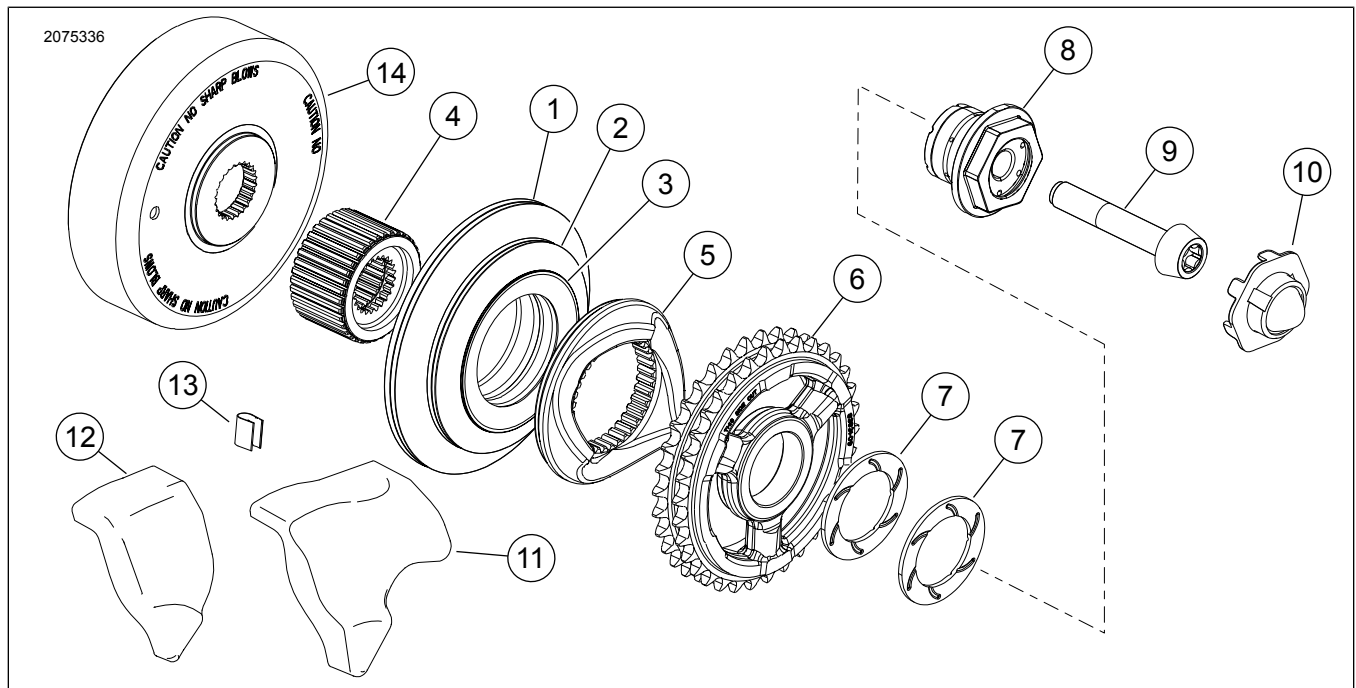

Figure 1. Kit Contents: Service Parts: Screamin' Eagle Big Twin Compensator Kit
9. **2006-2011 Dyna, 2007-2011 Softail (except 2008-2009 FXCW, 2008-2011 FXCWC, 2009 FXSTSSE3, 2010 FXSTSE and 2011 FXSTSE2) and 2007-2010 Touring models:** See Figure 1. Install **new** alternator rotor (14) to engine compensating sprocket shaft. See service manual.
10. See Figure 1. Apply a thin layer of primary chaincase oil to the sliding cam (5) splines and the outer splines of shaft extension (4). Install shaft extension with the flat side against alternator rotor (14).
12. See Figure 1. Install sliding cam (5) with flat face contacting small disc spring. Lubricate sliding cam (5) ramps with primary chaincase oil.